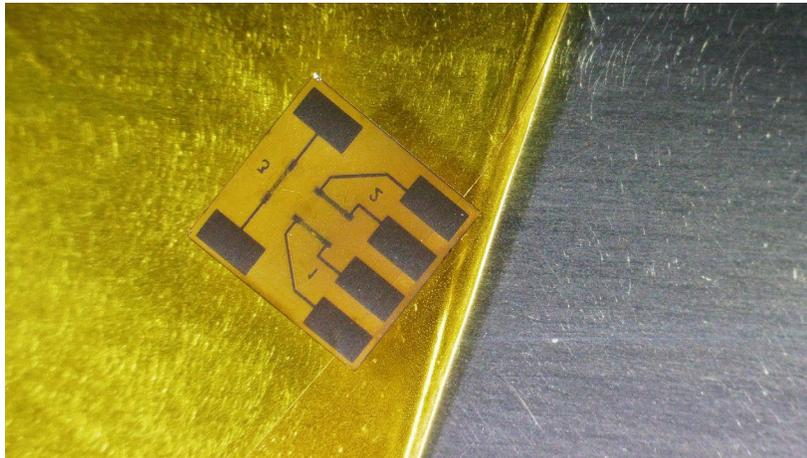

Figure B2 – Positioning Rosette on Structure.
- B.8 Center the rosette over the reference marks on the structure and then lay the free end of the tape on the structure. Afterwards, bend the Tape backwards to expose the back of the Rosette. See Figure B2.